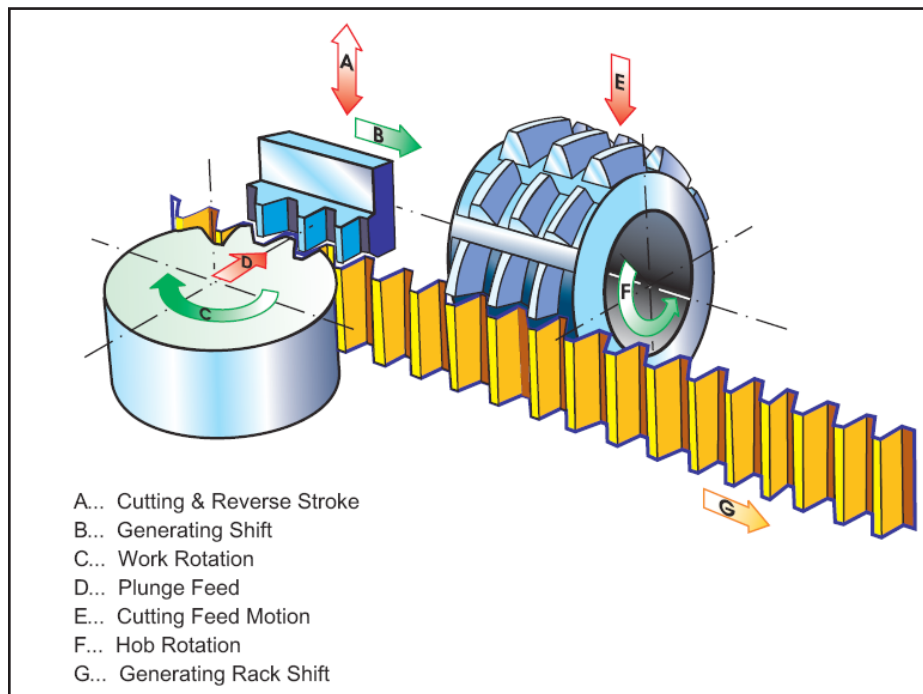
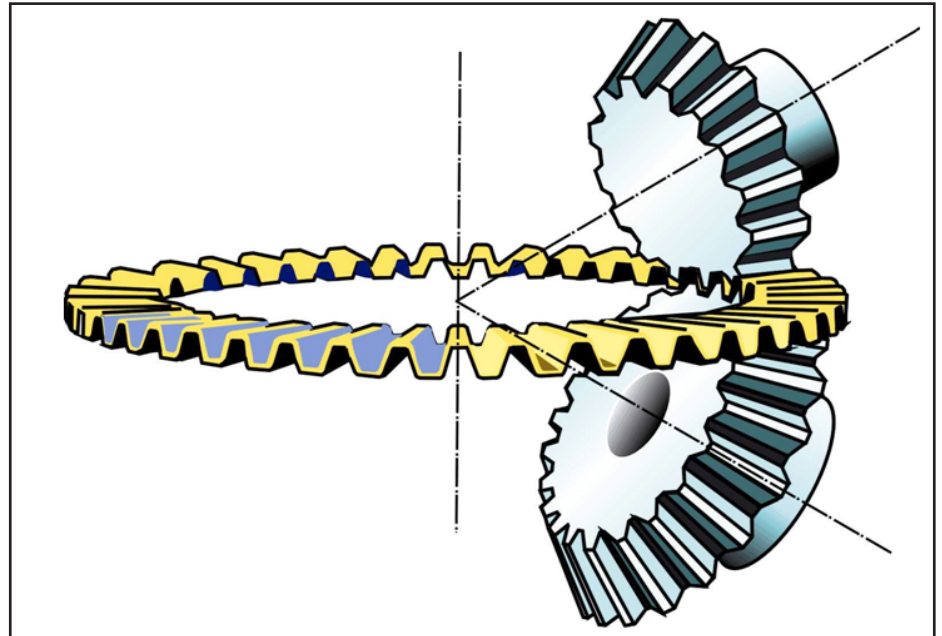
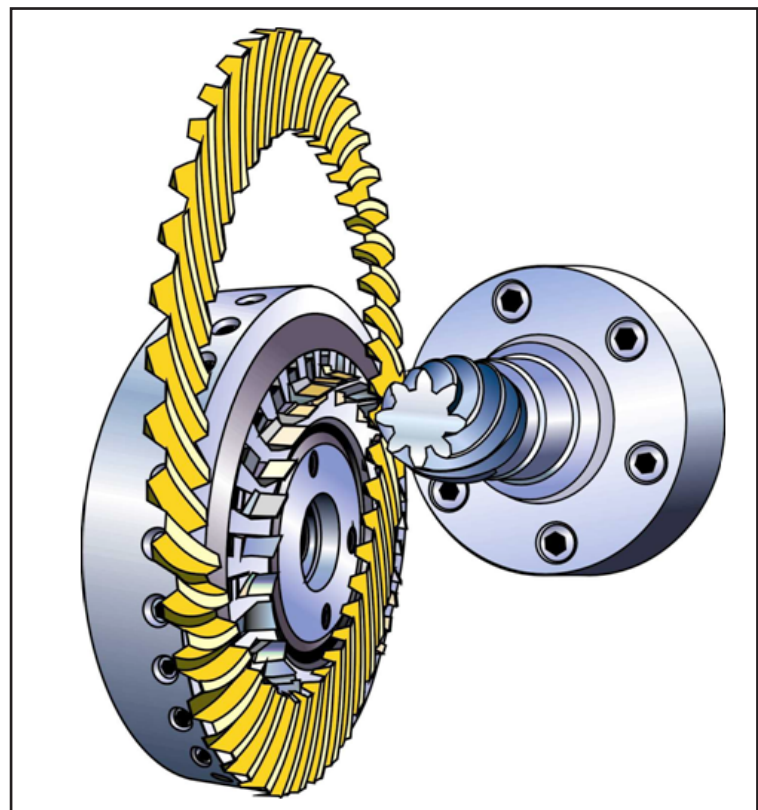

Figure 8 Manufacturing of involute tooth forms.
Figure 9 Generating principle of straight bevel gears.
Figure 10 Generating principle of spiral bevel gears.
This manufacturing principle via toothed rack exists in practical form as a planing method (Fig. 8, left). A reciprocating planing rack—which performs a combination of cutting and withdrawn reverse stroke—is shifted sideways while the work gear rotates a predetermined amount in order to generate the involute profile.
For soft cutting, “threaded” hobs (Fig. 8, right) are mostly used. The discrete cutting blades are grouped along a helix on the surface of a cylinder. Hobs are swiveled to an angular position in order to compensate for the helix lead angle. During the continuous hob rotation, a feed motion moves the hob along the face width of the work gear (“E” in Fig. 8). In case of a single start hob, the work gear will rotate one tooth (one pitch) during one hob rotation. A number of other methods for the manufacture of involute gears are also derived from the generating principle with a trapezoidal rack.
The conclusion from “N to N+1” from the cylindrical gear to the bevel gear can be created intuitively if the generating rack (Fig. 8) is placed on a flat surface and then bent around a vertical axis (Fig. 9). If the rack is imagined to consist of thin, elastic material, then only the cylindrical section through the middle of the face width of the toothed ring (Fig. 9) shows the original trapezoidal rack profile (Fig. 8), i.e.—rolled on the surface of said cylinder.
The trapezoidal profile reduces in size proportionally towards the center and enlarges proportionally towards the outside. If this proportional profile distortion does not only apply in circumferential direction but also in vertical direction, then the optimal generating gear for straight bevel gears has been created. This leads to a simple explanation of the generating principle in Figure 9. If a disk from modeling clay is pressed from the top into the profile of the generating gear and a slip free rotation between disk and generating gear occurs, then teeth with nearly involute profiles are formed. The profiles formed in this experiment are spherical involutes, or octoids of the first kind. If the same experiment is repeated with a disk from modeling clay from the lower side of the generating gear, then a second bevel gear with an octoid profile is created. Remarkably enough, in the conducted brain experiment the most elementary case of the kinematic coupling requirements between two gears has been realized. If it is possible for the
1. The flank surfaces of the generating gears of the two mating bevel gears are congruent (same shape but mirror images (Fig. 9))
2. The generating gears of the two mating bevel gears require identical axes of rotation (top/bottom sides of generating gear in Figure 9 form the same generating gear which rotates in both cases around the same axis and therefore satisfies condition 2)
3. The surface of engagement of pinion and ring gear must be identical to the surface of engagement between pinion and generating gear, and also to the one between ring gear and generating gear (without detailed knowledge of the surfaces of engagement, the global condition in Figure 9 seems to satisfy this requirement)
When the involute flank generation of cylindrical gears was applied to bevel gears in Figure 9, the trapezoidal gener-
It is, for example, possible to expand the function of the straight tooth plain generating gear of Figure 9 to a plain generating gear with curved teeth and subsequently arrive at Figure 10. At the left side of the generating gear (Fig. 10), a cutter head is shown that has blades that are oriented a certain distance from the cutter head center, which represent one tooth of the generating gear. This arrangement allows for a continuous rotation of the cutter head that results in an efficient chip removal in the tooth slots. The teeth of the resulting spiral bevel gear are oriented under an angle to the radial orientation of the straight bevel gear teeth (Fig. 9). A radial section (with an axial plane) will cut through two or even more teeth. This means for the pinions and gears manufactured with the generating gear in Figure 10, that more than one pair of teeth is in mesh and participates in the transmission at any time. This effect, called the “modified